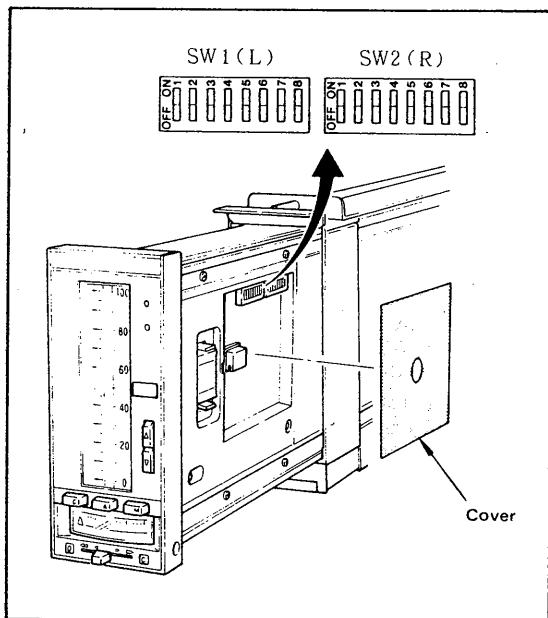

Figure 6-2-6. 8-digit DIP Switch.
- (1) Remove the cover as shown in Figure 6-2-6.
- (2) Two 8-digit DIP switches (L and R) are visible. (See Figure 6-2-6.)